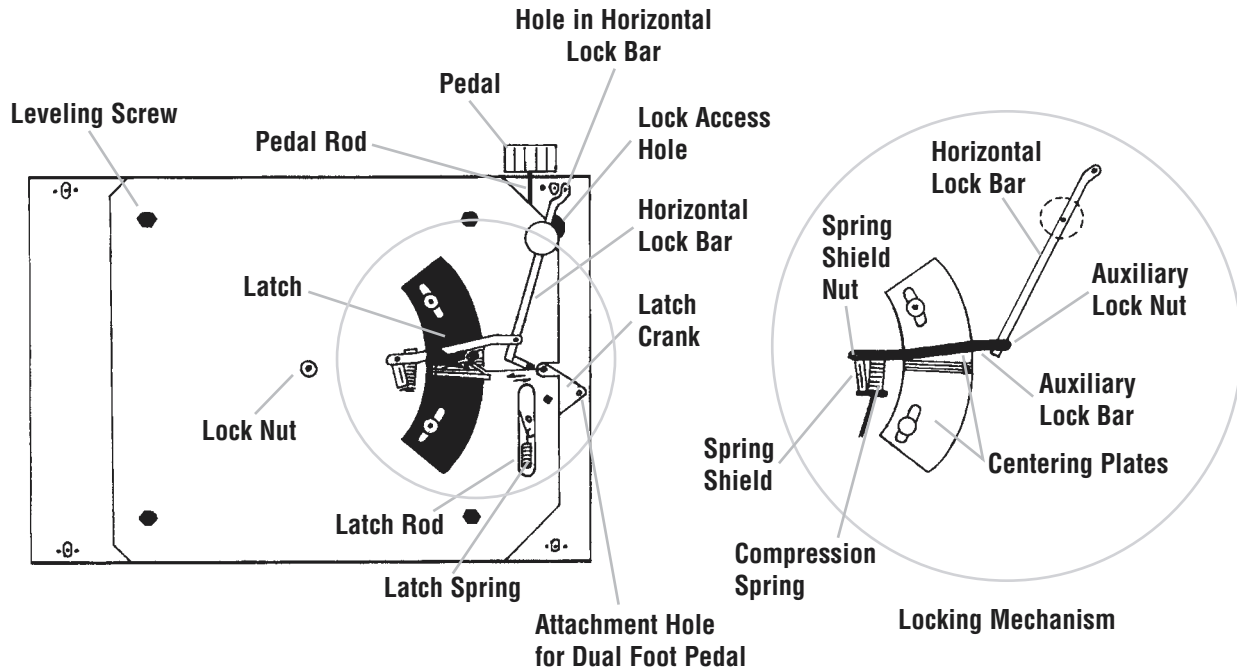

Figure 2 - Underside of Main Base
**Step 1 - Base Preparation** (Figure 2)